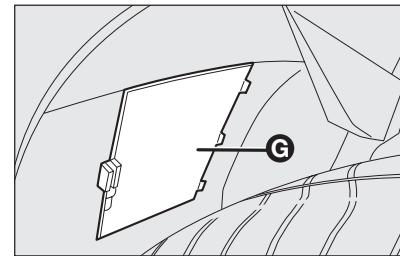

fig. 13
- fully steer the wheels outwards to expose the flap **G-fig. 13**, open the flap and unscrew the fastening device;